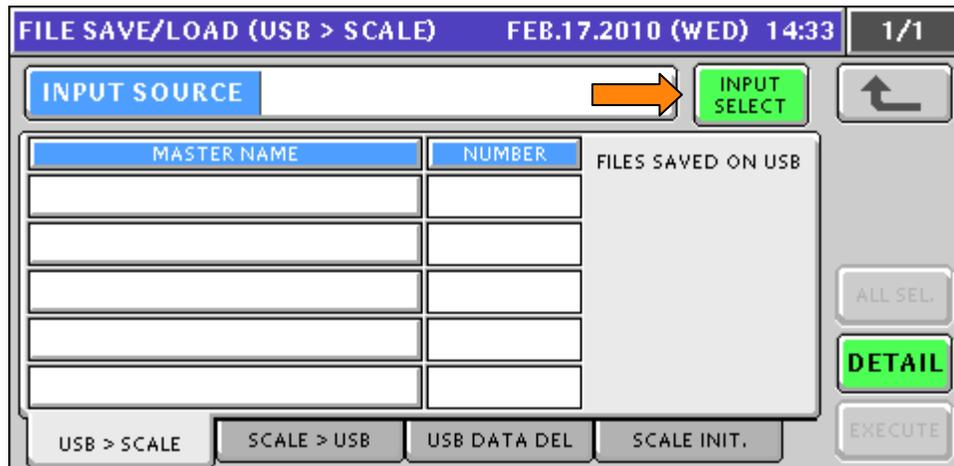

Figure 6.5. USB Memory Stick Input to Scale Memory
7. Press the **USB > SCALE** tab. See Figure 6.5.